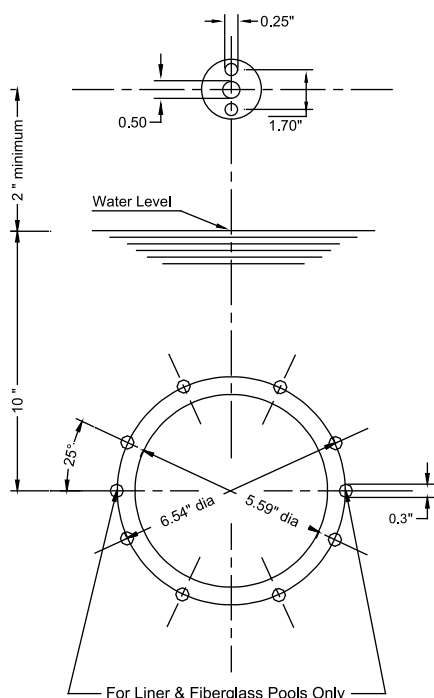

Figure 10
2. Mount the housing (part #7) and one gasket (part #12) on the outside of the pool wall using two (2) screws 14 x 1" (part #27). Install the screws from the inside of the pool wall through the holes drilled at 3 and 9 o'clock positions. (See Figure 10 & 11)
3. Install the clamping ring (part #3) and the gasket (part #12) on the inside of the pool wall using eight (8) screws (part # 9/2, 9/3, 9/4, or 9/5) Screw lengths vary depending on the installation.
4. For the air regulator assembly, one 1/2" hole must be provided, preferably along the vertical axis, approximately 4" (or minimum 2") ABOVE the water line. (See Figure 10 & 11). Using the air regulator assembly gasket (part #21), mark and drill two 1/4" mounting holes. (See Figure 10) Use two flat head 1/4 - 20 machines screws (part #18) and two 1/4-20 nuts (part #19) to mount the air regulator. (NOTE: The flat head on the inside of the pool wall and the nut on the outside of the pool wall.)
For Steel Walled Pools: An optional butterfly gasket (part #12A) maybe purchased to replace the two (2) gaskets (part #12). Increase the jet housing hole from 5.59" to 5.75" for installation. (See Figure 10)